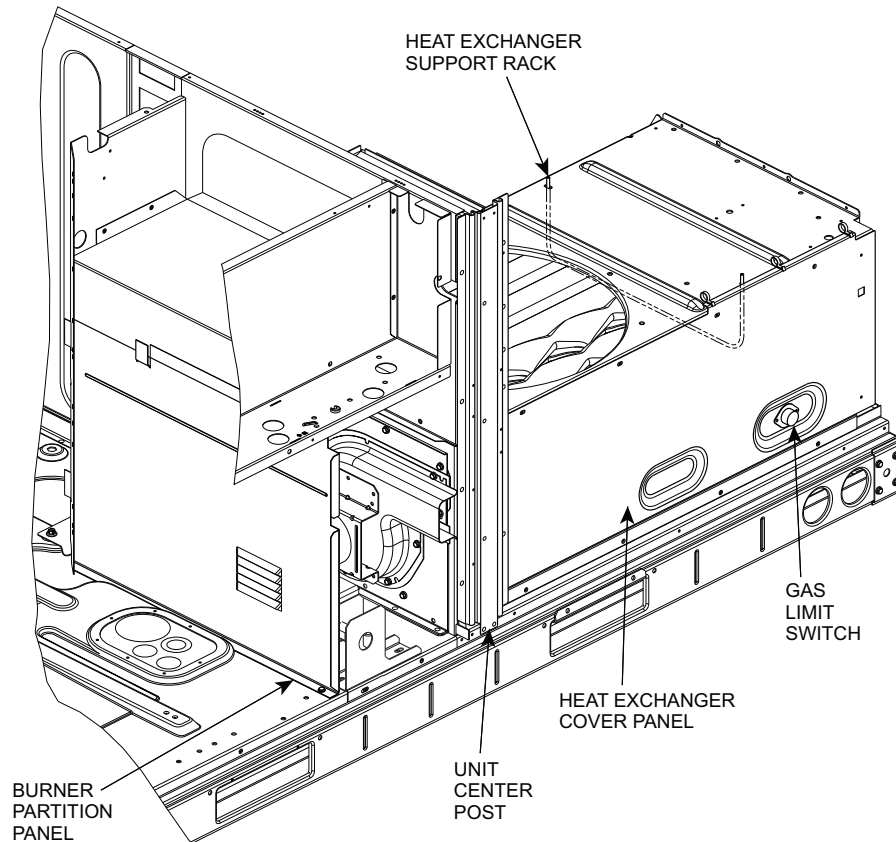

Fig. 47 — Heat Exchanger Access - Internal Panels, Center Post and HX Rack Locations
1. Remove the screw at the base of the burner partition panel (see Fig. 47) and slide out the panel.
5. Remove the screw at the base of the burner partition panel (see Fig. 47) and slide out the panel.
3. Remove the unit center post (see Fig. 47).